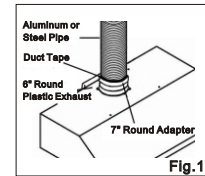

Fig.17
- Apply with aluminum or steel pipe to connect the plastic exhaust duct on the hood. Use duct tape to make all joints secure and ensure air tight. (Fig.17 )